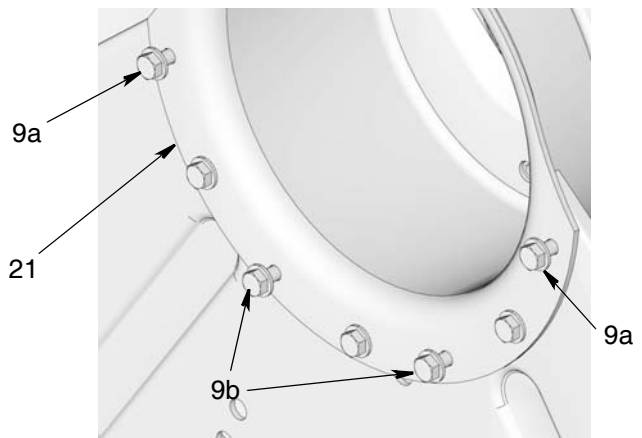

FIG. 6
2. Remove four of the mounting bolts (9a and 9b, FIG. 6) from the motor mounting bracket (21). These holes will be used to secure the motor module (26) to the motor mounting bracket (21).